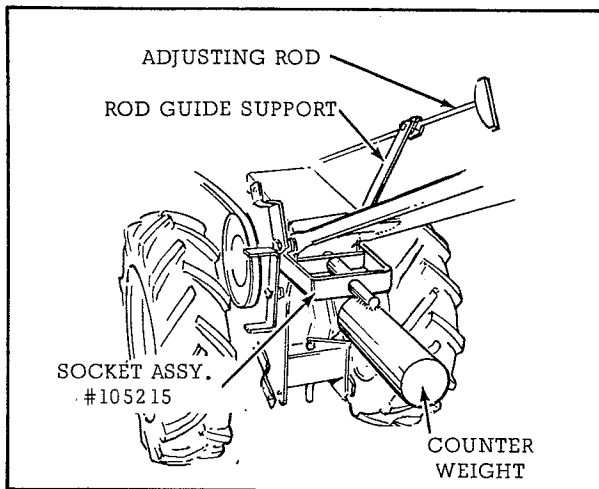

Fig. 12
The counter weight kit #990218 is designed to provide adequate counter-balancing force to the rotary snow plow and tractor. When installed as shown in figure 12, it will materially contribute to the ease of operation of the tractor when the snow plow is mounted.
3. Insert the rod end of the counterweight into the socket of the socket assembly and secure in place with the pin and hair pin cotter, in position shown in figure 12.